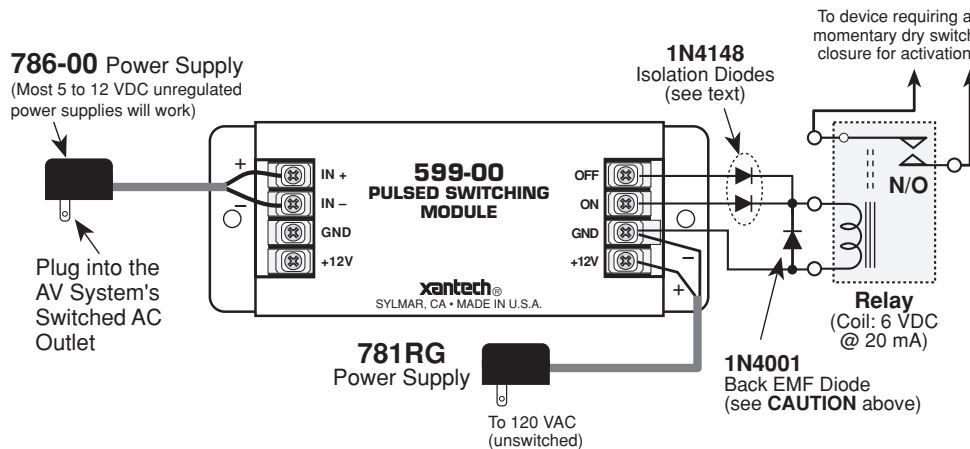

Fig. 4 Driving a Relay For a Momentary Dry Closure
There are times when you may want to drive a relay directly from the ON/OFF outputs of the 599-00 to trigger a device, such as a power amplifier, drape pulls, screen drops, etc. -- devices that require a momentary dry switch closure. **Fig. 4** illustrates how this can be done.
- As in Fig. 4, the two 1N4148 signal type diodes provide isolation between the ON & OFF outputs, yet combine them so that there is a momentary pulse for both the On and Off transitions.